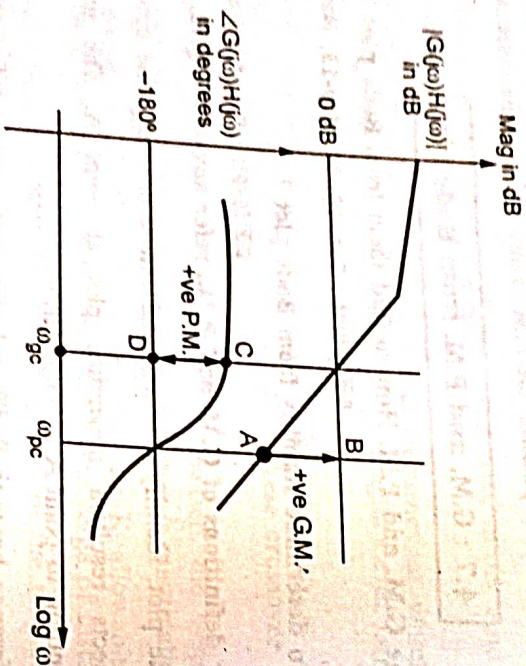

Fig. Q.13.1  $\omega_{gc} < \omega_{pc}$ , G.M. and P.M. positive, stable system
• The G.M. and P.M. for stable system is shown in the Fig. Q.13.1.